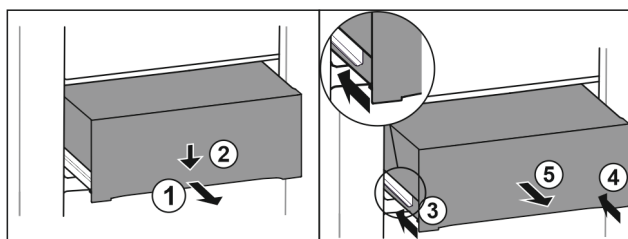

Fig. 233
- Pull out drawer half-way. Fig. 233 (1)
- Push the drawer down at the front. Fig. 233 (2)
- Push the left rail in by about 2 cm. Fig. 233 (3)
- Push the right rail in by about 2 cm. Fig. 233 (4)
- Remove drawer to the front. Fig. 233 (5)